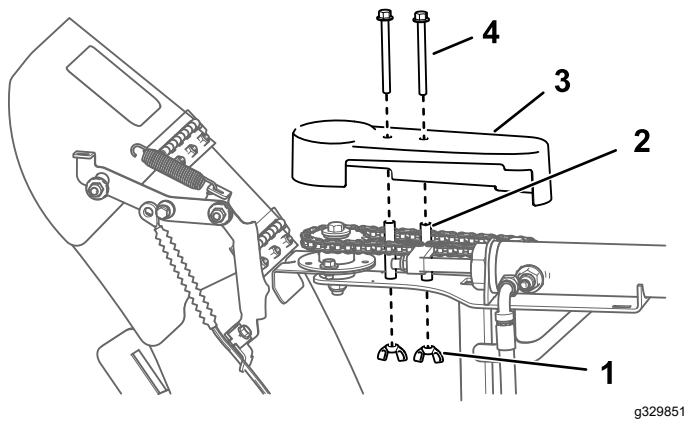

Figure 35
- Install the cover as shown in Figure 35.